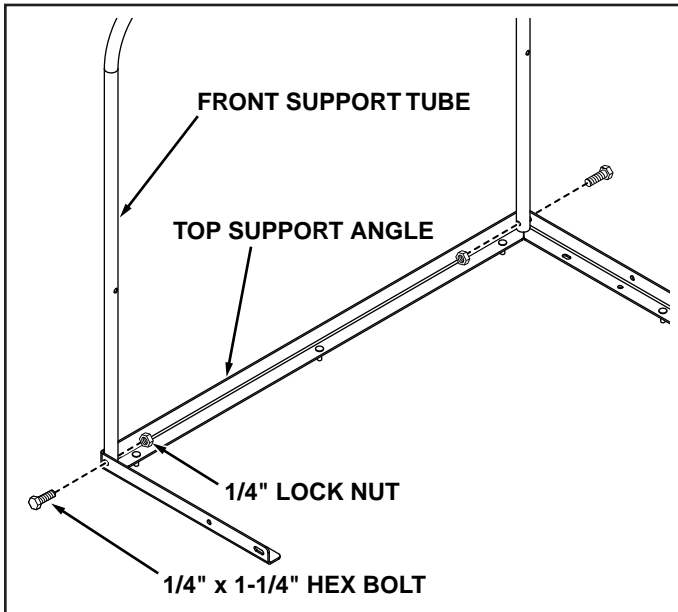

FIGURE 19
- Secure front support tube to top support angle using two 1/4" x 1-1/4" hex bolts and 1/4" lock nuts. **TIGHTEN. Do not over tighten** and collapse support tube. See figure 19.